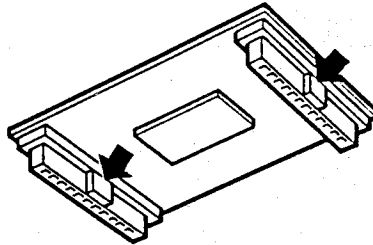

Fig. 2-1-7
- ⑥ Connect the RAM board to the appropriate set of connectors. Be sure that the tabs used to ensure correct board mounting are firmly set into the base board notches (see Fig. 2-1-7).